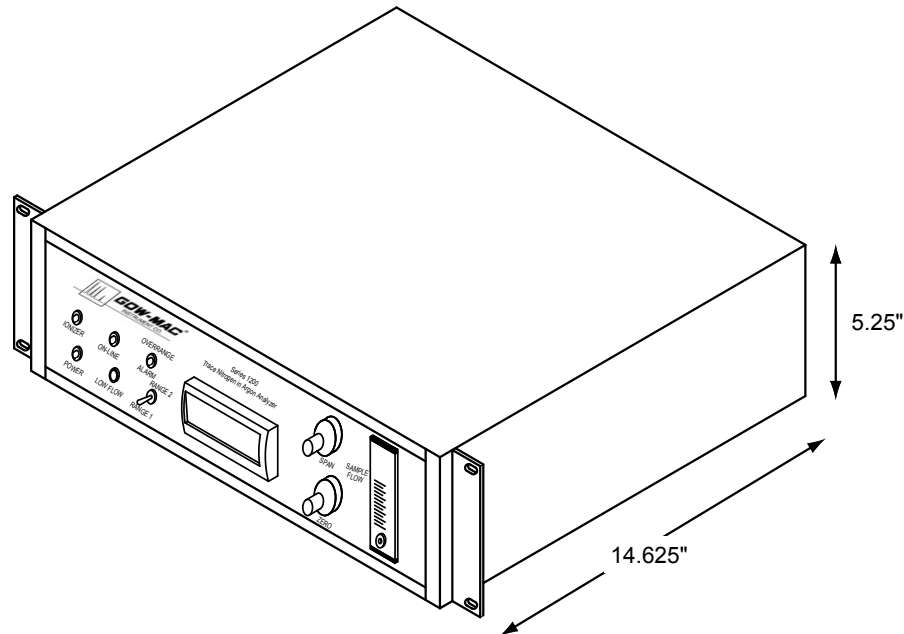

Figure 3-1: Series 1200 Analyzer Dimensional Drawing
- 5-1/4-inches (13.3 cm) of 19-inch rack space, as shown in Figure 3-1